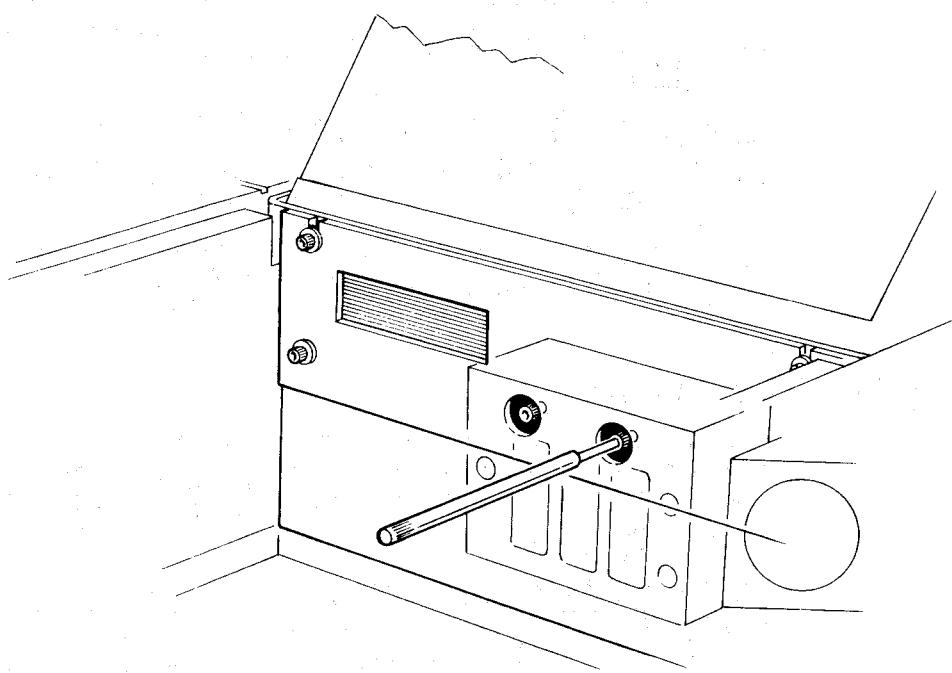

Fig 8.2 Optics adjustment
- (e) Using the screwdriver supplied, adjust the screw behind the upper opening (see Fig 8.2) for a maximum PEAK MAX reading on the TEST page.